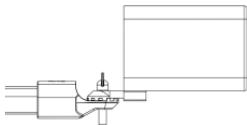

Figure 5 - Assembly detail with hot stick
- Connect the Super Tester to the Hot stick, using the universal adapter, as in figure 5;